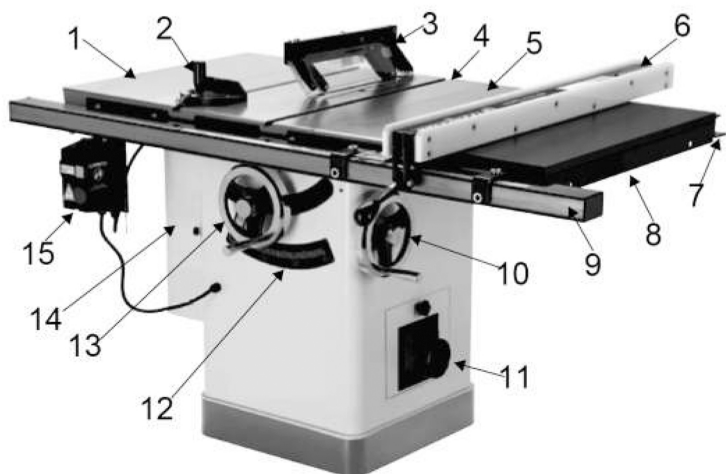

Fig.1
3.2 Feature Identification(Fig.1)